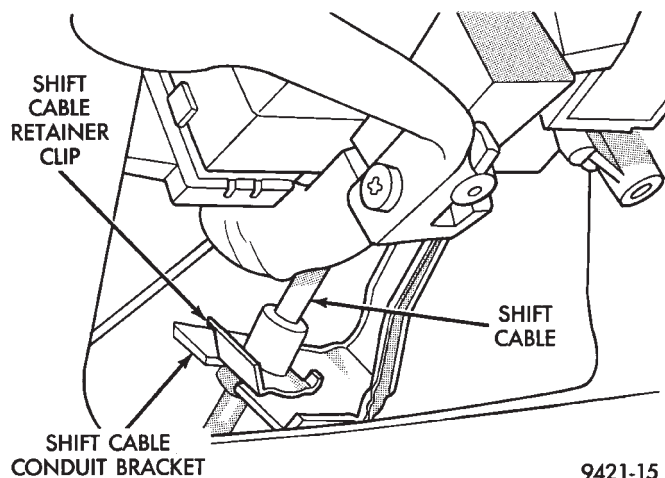

Fig. 19 Shift Cable Retainer Clip Removal
(7) Remove cable retainer clip from shift cable conduit bracket (Fig. 19).